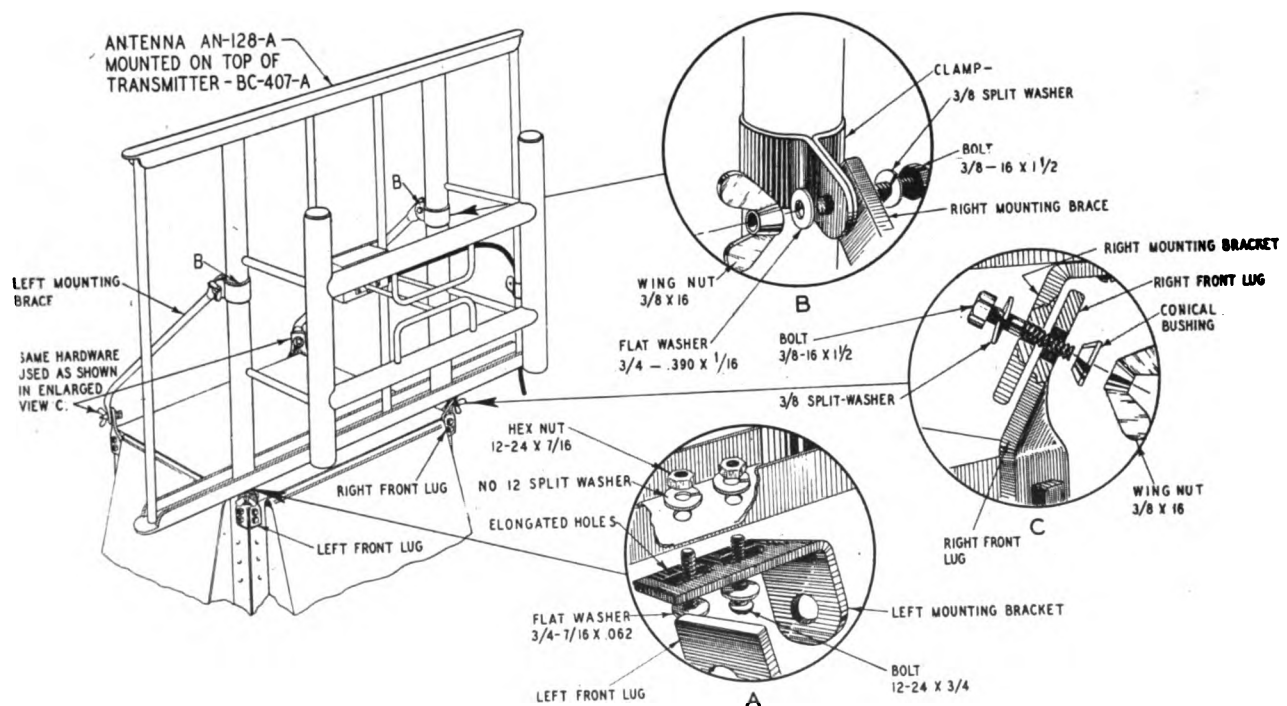

Figure 33. Antenna mounting assembly details.
c. Snap the two clamps B (fig. 33) around the two back tubular supports of the antenna, approximately 27 inches from the base of the frame, as shown in figure 33. The proper setting of these clamps will automatically place the antenna in its correct angular position when mounted.
Place  $\frac{3}{4}$ -inch flat washers and  $\frac{3}{8}$ "-16 wingnuts on these bolts and tighten as shown in figure 33, sketch B.
f. Place the two front mounting brackets in position as shown in figure 33, sketch C.
h. Place split lockwashers on the hex bolts and insert clamps from the inside faces of the mounting brackets. Tighten the thumbnuts as shown in figure 33, sketch C.